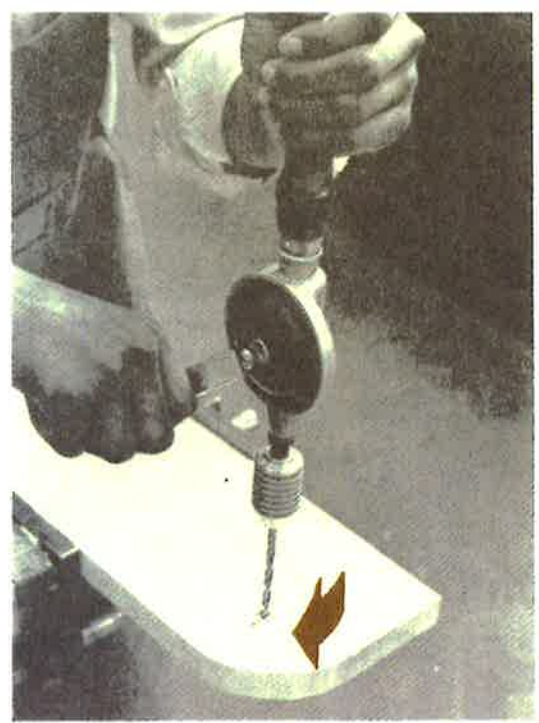

Fig. 18-28. Drilling a hole with a hand drill.
4. Place the bit on the mark. Hold the drill steady while turning the crank at a moderate, constant speed (Fig. 18-28).